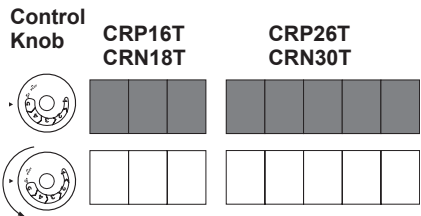

Figure 24 - Burner Patterns
8. Turn thermostat control knob counter-clockwise ↻ to the desired heating level. The main burner should light. Set control knob to any heat level between 1 and 5 (see Figure 24).